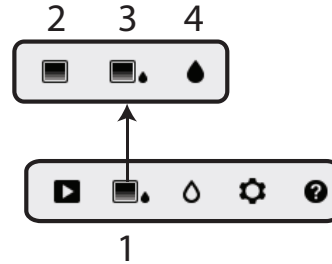

Fig. 5-2 Image mode
Press the Select button to access the Main Menu and then select the IMAGE mode icon (1). Refer to Fig. 5-2. Choose Thermal IR Image-only mode (2), IR + IGM Moisture mode (3), or Moisture-only mode (4). Each mode is described below.